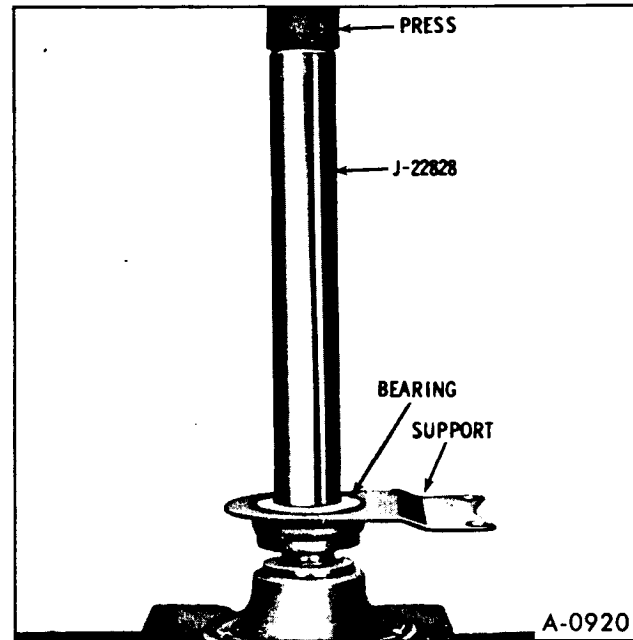

Figure 8—Installing R.H. Output Shaft Bearing
2. Position assembly in a press and install bearing until seated as shown in Figure 8.